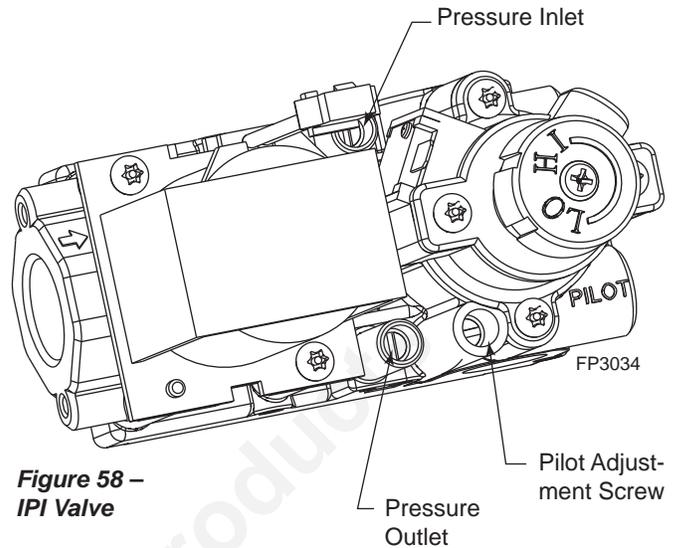

Figure 58 –
4. To check gas pressures at valve, turn captured screw counter clockwise 2 or 3 turns and then place tubing to pressure gauge over test point. Turn unit to high. *Figure 58.* After taking pressure reading, be sure and turn captured screw clockwise firmly to reseal. Do not over torque. Check test points for gas leaks.